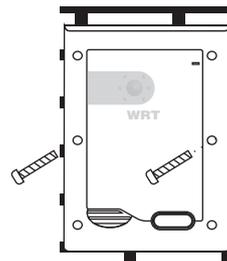

figure4
- 5.Connect the transmission cable, press the station into the bottom case. And it with four screws, ( figure 4).